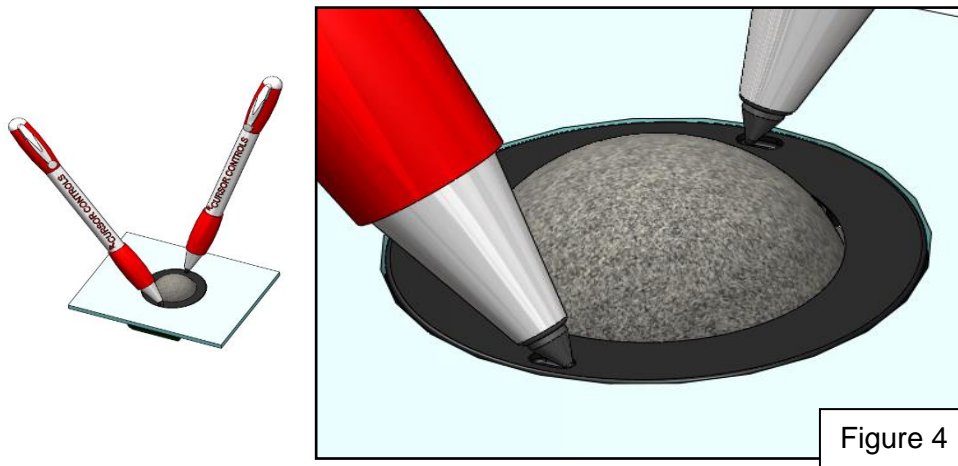

Figure 8 – Unlocking the removal ring – Alternative method
- Alternatively, this process can be achieved by inserting any two blunt instruments into the location holes and rotating. A typical example would be using two ball point pens - see figure 8 below.